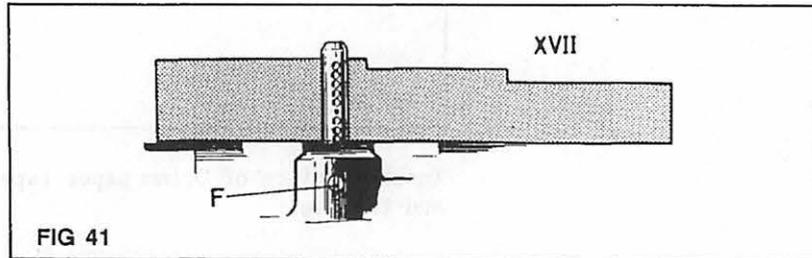

FIG 41
- loosen the screw F. See FIG 41.
- align the ref. plane of the punch pin guide and the planes of the punch/feed unit by using the tool XVII as shown in FIG 41.